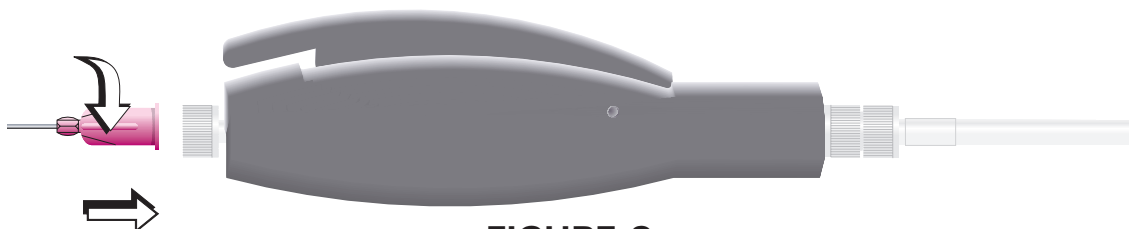

FIGURE 3
2. Install dispensing needle into Luer Lock Fitting on exit side of (3) Pinch Tube on the Pen with twisting action (Refer to figure 3).